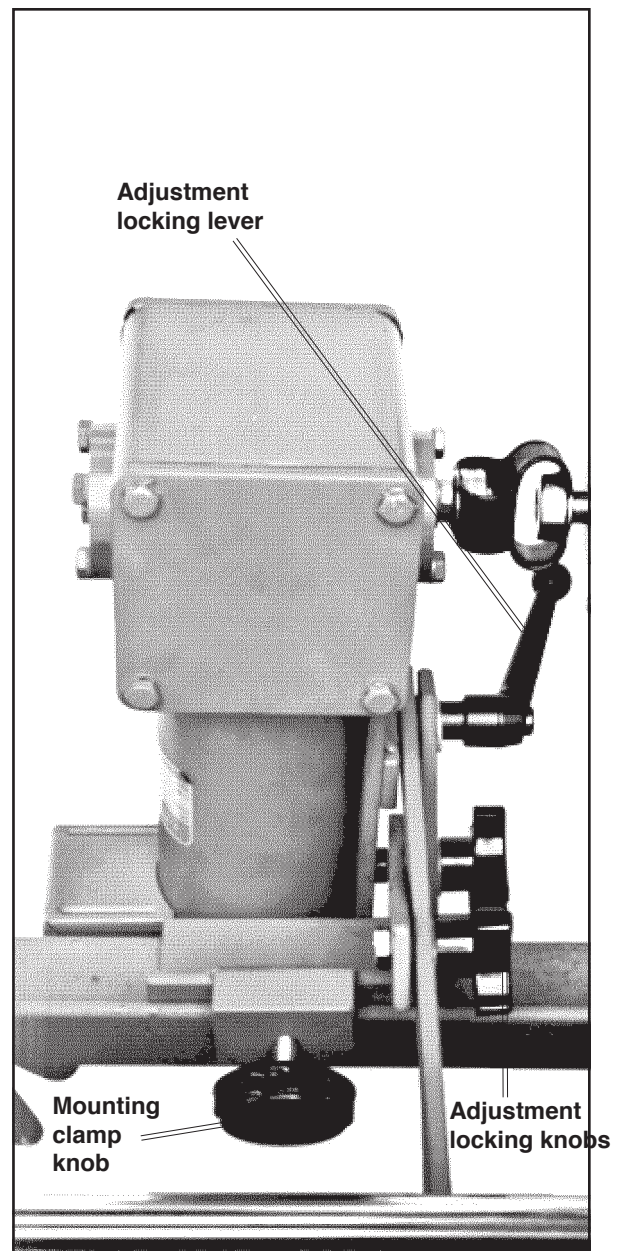

Figure 2.7 Spin motor
2.3.1 If you have an automatic grinder, it includes a spin motor which is mounted on the mower support bar (Figure 2.7).